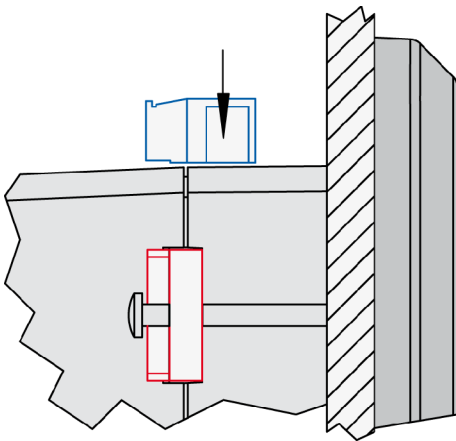

Fig. 23: Reattach terminals
7. → Reattach the wire connection terminal strip (Fig. 23) and secure them with the side screws.